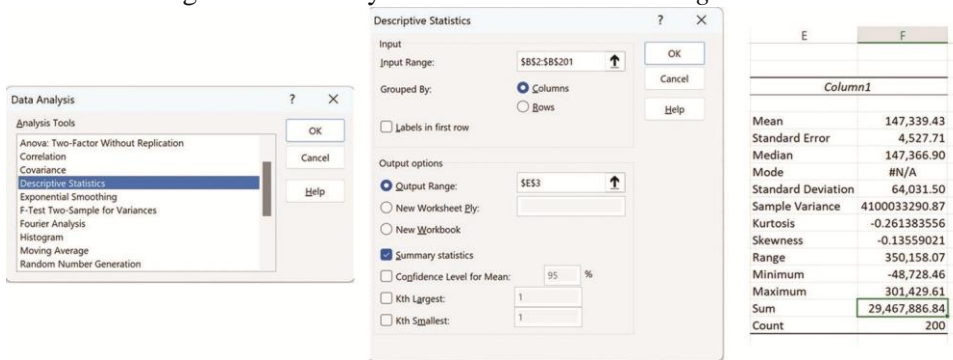

Figure 12.34: Simulations summary statistics
b. Using the Data Analysis for the statistics. See *Figure 12.34*.
c. Using the Data Analysis for the simulation risk profile. See *Figure 12.34*.